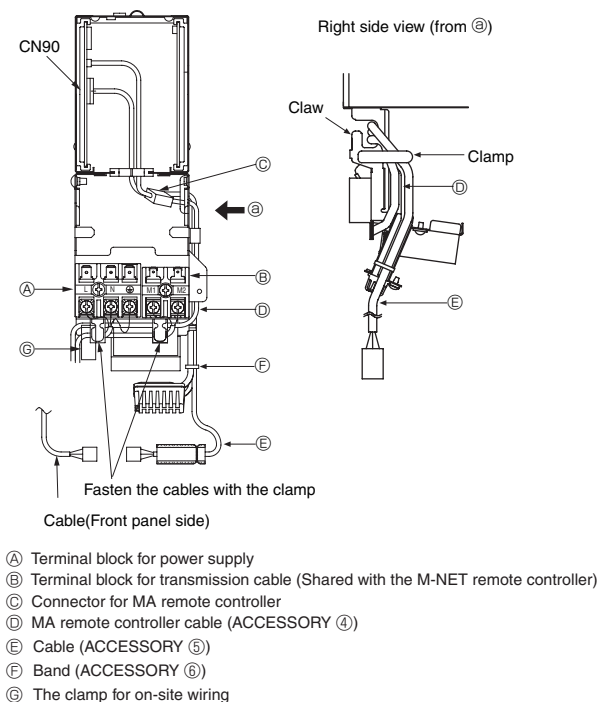

Fig. 5-1
5.1. Indoor unit (Fig. 5-1,5-2)